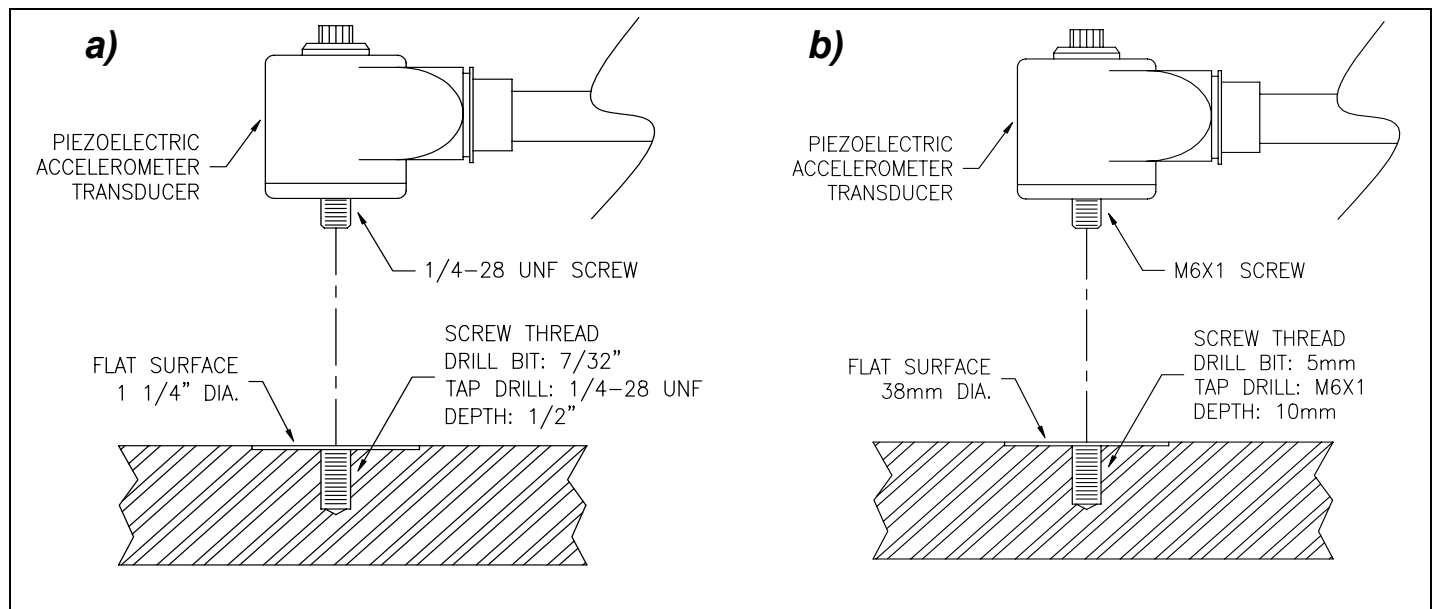

Figure 1
1. Select the best mounting location according to your application (refer to preliminary considerations). Prepare the surface and mounting hole according to Figure 1 a) if the screw has UNF thread or Figure 1b) if the screw has a metric thread.